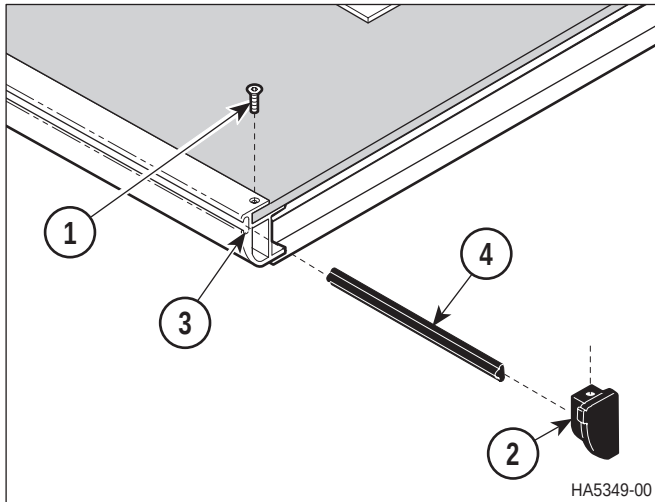

**Figure 4-31. Siderail Bumpers
- (1) Remove mattress from litter top.
- (2) Remove screw (1, Figure 4-31) and end bumper (2) from litter frame (3).
- (3) Slide side bumper (4) out of litter frame (3).
- (4) If necessary, repeat step 2 and 3 for three remaining corners of litter frame (3).